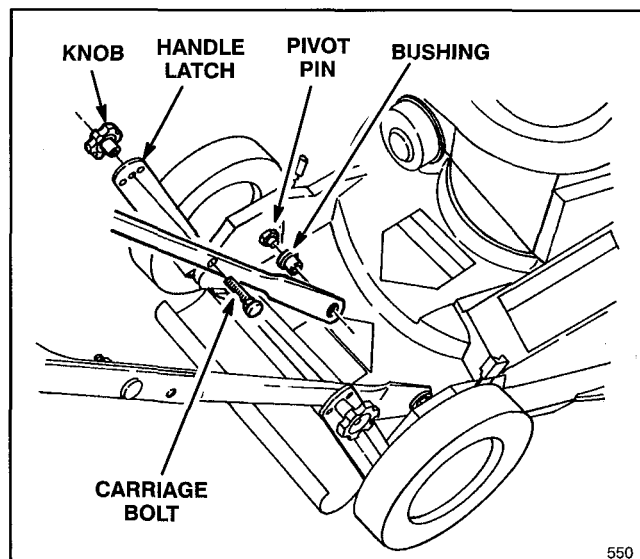

Figure 1
1. LOWER HANDLE—Push bushings through bottom holes of lower handle (Fig. 1).
2. Squeeze ends of lower handle together and install on pivot pins (Fig. 1).
3. Position handle latches (Fig. 1) so that holes in latches align with holes in handle.
4. Insert carriage bolts through holes in handle and handle latches. Install knobs on outside of handle and tighten securely (Fig. 1).